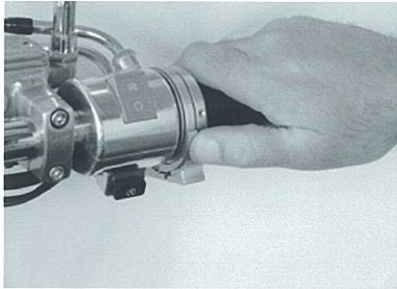

Figure 12
3.1 Release the cruise control to the off position by pushing the Manual Release Lever(19) forward. **(Figure 12)**